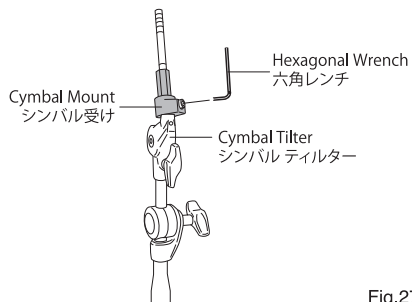

Fig.27
1. Unscrew the Cymbal Nut from the Cymbal Holder. Insert the Cymbal Mount onto the Cymbal Tilter until fully seated as shown. Tighten the hexagonal screw with the provided wrench (Fig.27).
シンバル受けをシンバルティルターのロッドに根元まで差し込み、付属の六角レンチで固定します (Fig.27)。